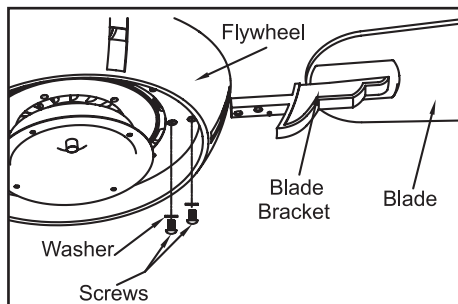

Figure 10
3. Insert the blade/blade bracket assembly through the hole in the side of the center fly wheel, align the two screws holes in the bracket with the screw holes in the center flywheel and secure with screws and lock-washers supplied (Figure 10).